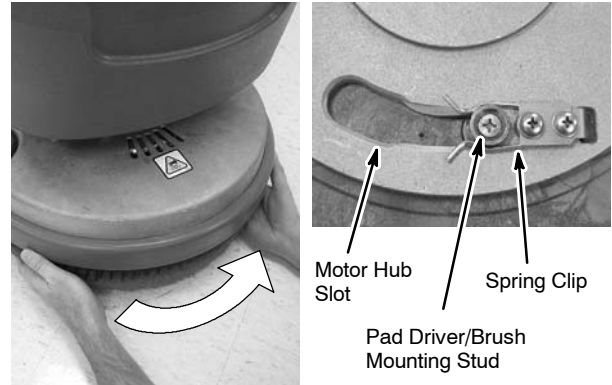
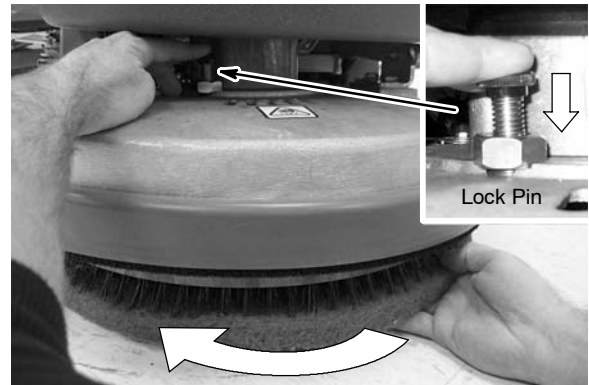

FIG. 9
FIG. 10
5. Align the pad driver mounting studs into the motor hub slots and give the pad driver a quick turn to engage spring clip (Figure 9). Single disk models: If necessary, press down on the motor hub lock pin to lock motor hub in place (Figure 10).
Single Disk Models: Press down on the motor hub lock pin and turn the pad driver/brush clockwise (Figure 10).